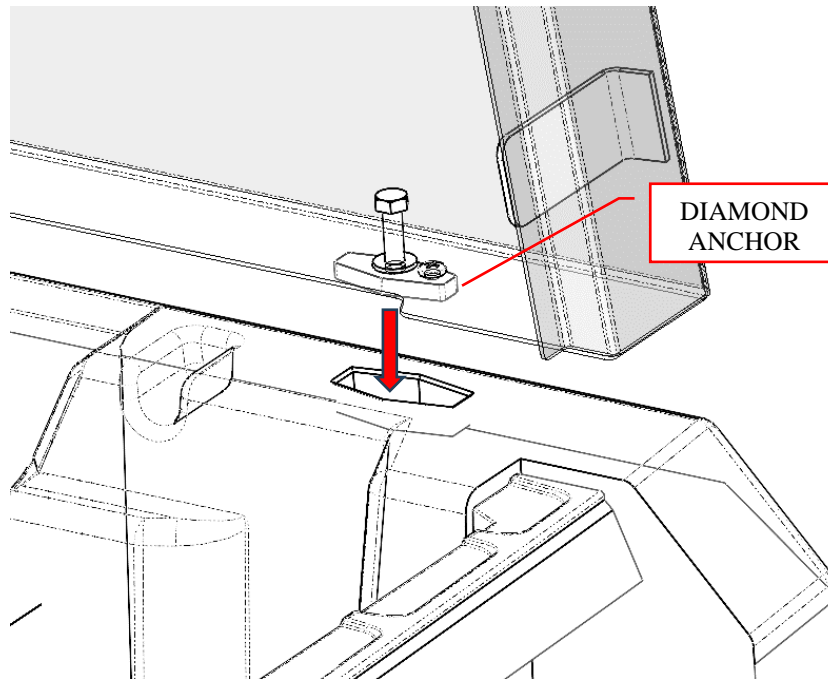

Figure 4: Set the assembled panels on the bed walls.
2. Using an assistant, set the assembled panels onto the bed walls of the Can-Am Defender. Line up the diamond shaped anchors on the underside of the walls with the corresponding bed holes. See Figure 4.